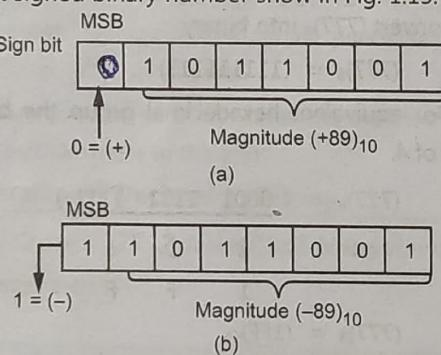

Fig. 1.15 : 8-Bit signed binary numbers
e.g. 8 bit signed binary number show in Fig. 1.15.